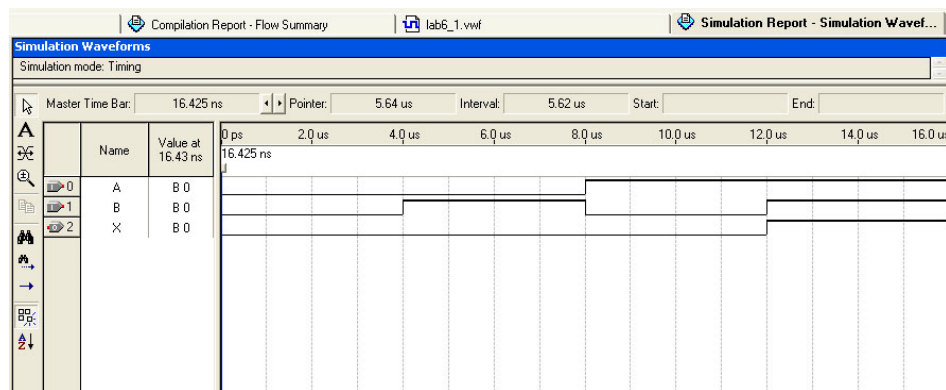

Figure 6-16
30. The Simulation Waveforms appear in the Simulation Report shown in the Figure 6-16. You may have to expand the size of the Simulation Waveforms to suit your need and choose **View > Fit in Window** to see the entire 16μs waveform.